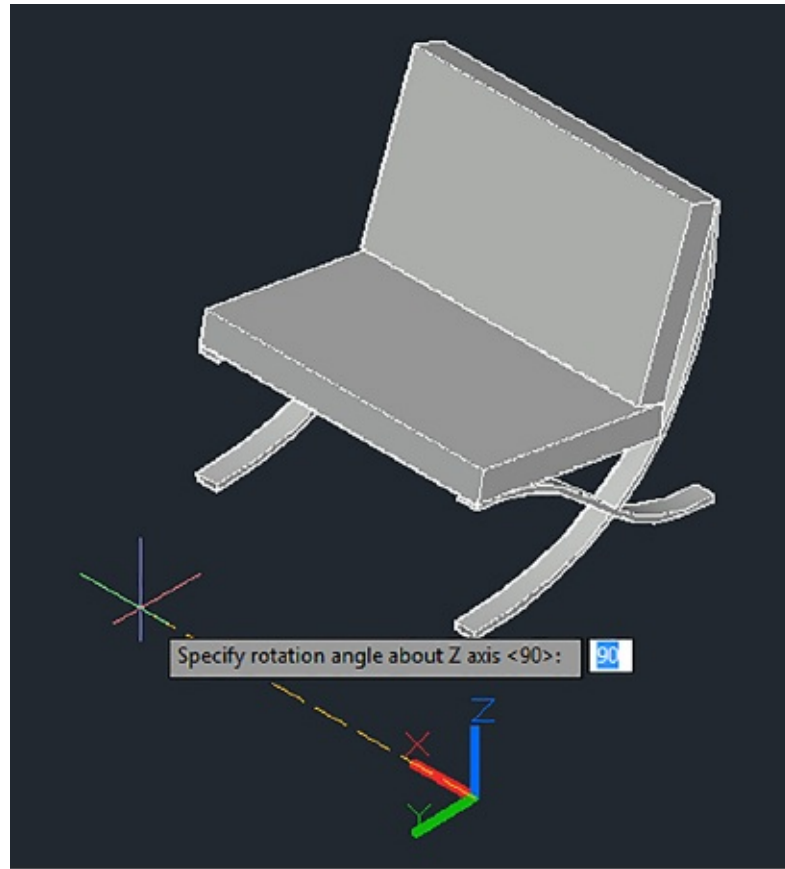

FIGURE 21.14 Rotating the UCS about the z-axis
2. At the Specify rotation angle about Z axis <90>: prompt, press ↵ to accept the default of 90. The UCS icon rotates about the z-axis to reflect the new orientation of the current UCS (see Figure 21.14).